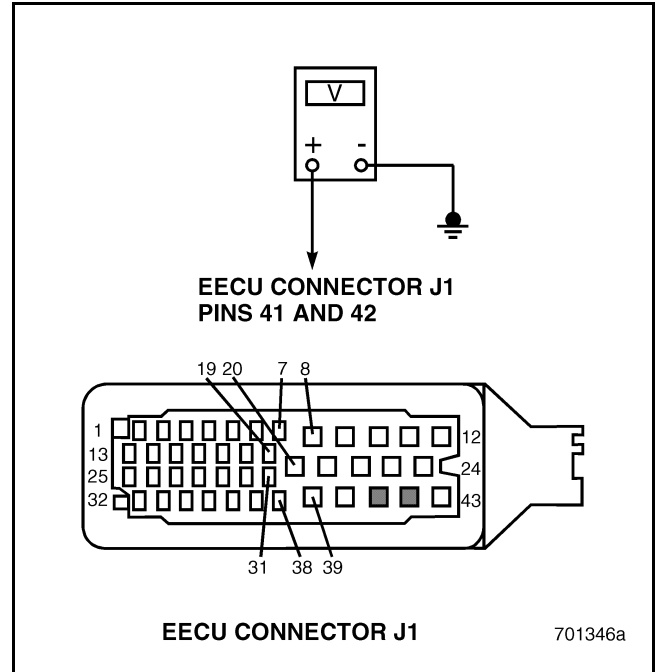

Figure 747
4. Measure the voltage between EECU connector J1 pins 41 and 42 versus a good ground (see Figure 747).